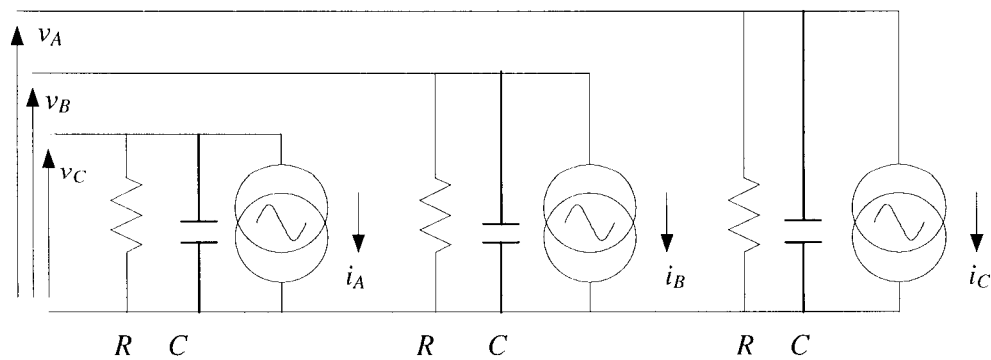

Figure 1.1
- (b) (i) Write a set of voltage and current equations to describe the circuit in Figure 1.1 and transform them to dq form. [8]